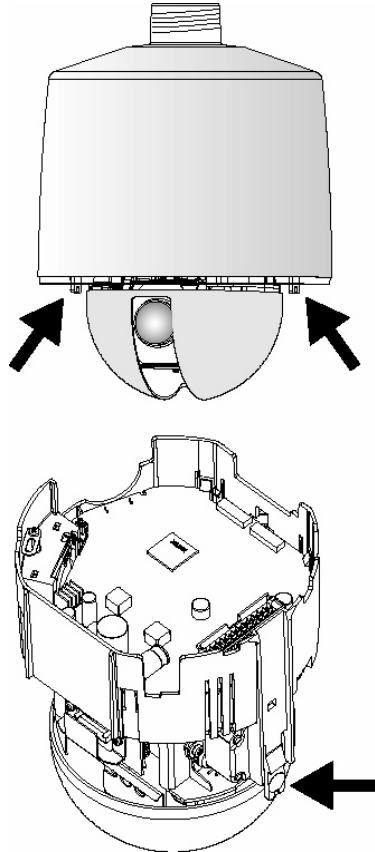

Figure 12
3. Push in the tabs on the housing until the SVFT-M camera drive is released. Refer to Figure 12.